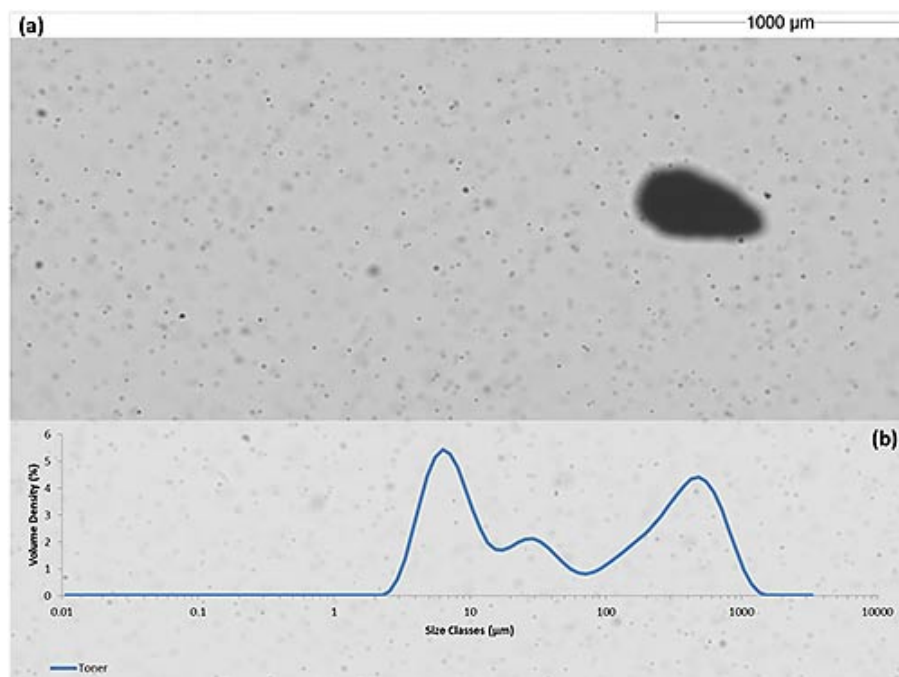

Figure 2: (a) Hydro Sight Image of toner in an agglomerated state (b) Mastersizer 3000 particle size distribution of agglomerated toner.
Dispersion of the sample begins under the action of the Hydro EV pump and stirrer and initially we see some very large agglomerates in Hydro Sight images, accompanied by a wide particle size distribution measured by the Mastersizer 3000 (Figure 2). The action of the stirrer in the Hydro EV provides some dispersion energy and we begin to see loosely bound agglomerates break up. We can follow this process in a number of ways. The live trend in the Mastersizer 3000 software allows us to follow the decrease in particle size and increase in obscuration as agglomerates are dispersed into primary particles. We can also use the Hydro Sight Dispersion Index (DI) and Relative Standard Deviation (RSD) to follow this process, and identify when the sample is fully dispersed.